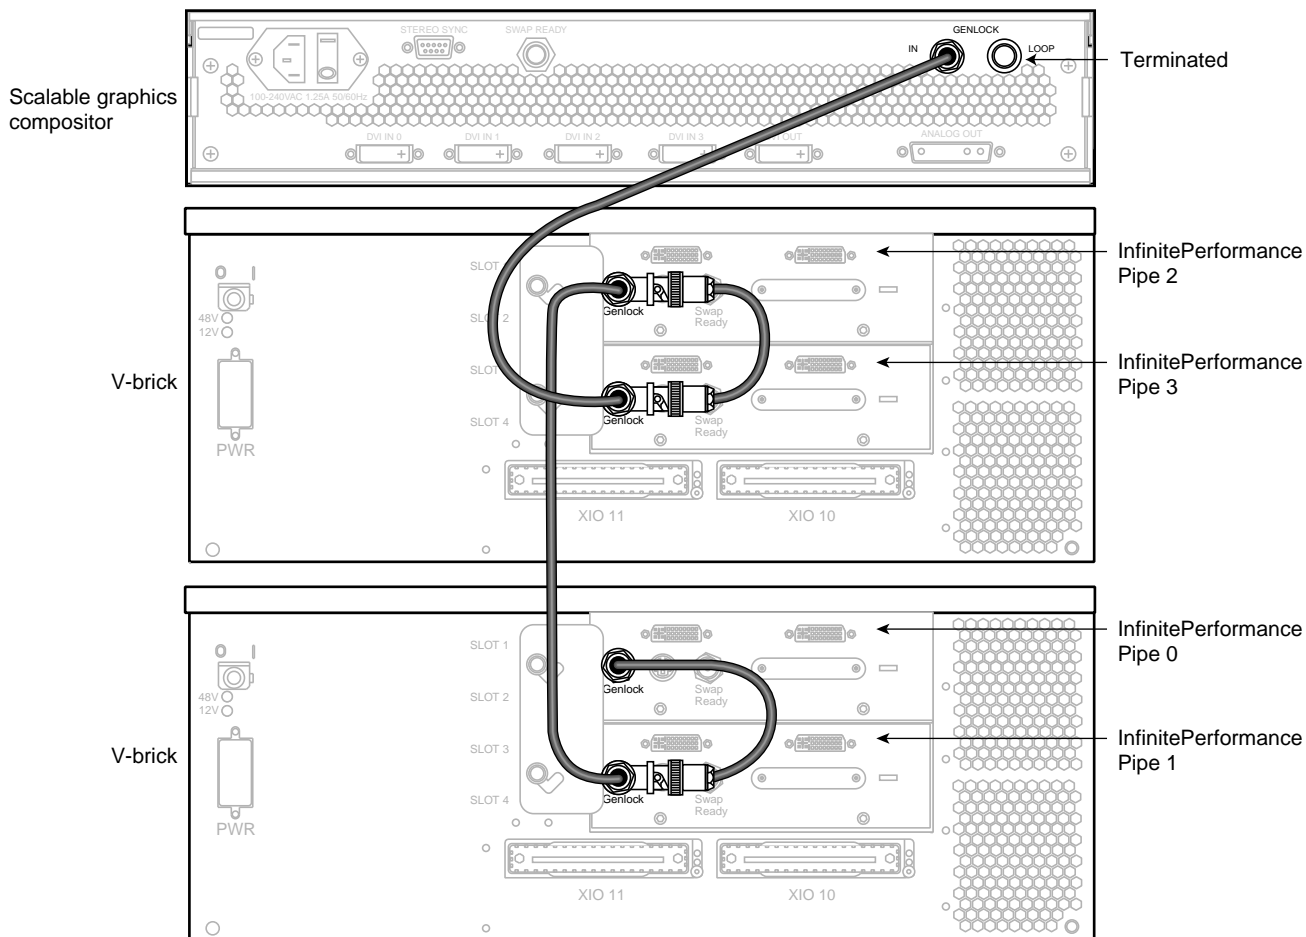

Figure 2-6 Connecting the Genlock Connectors
5. Using the 75-ohm BNC cables and the BNC T connectors, daisy-chain the InfinitePerformance genlock connectors to each other, and then connect the last genlock connector to the genlock-in connector on the compositor in the following order (as shown in Figure 2-6): pipe 0 to pipe 1, pipe 1 to pipe 2, pipe 2 to pipe 3, and pipe 3 to the genlock-in connector on the compositor.
6. Connect the 75-ohm BNC terminator to the genlock-loop connector shown in Figure 2-6.